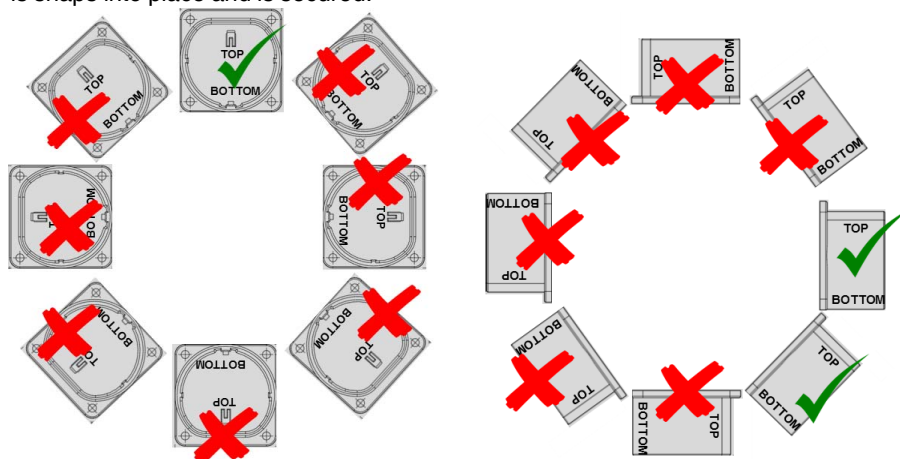

Figure 8-1 Mounting position and alignment
3. Maintain the permitted mounting position (see Figure 8-1). The park position must only be installed straight and with a front incline of 0 to 45 degrees. Otherwise, the latching function of the integrated snap-on hook will not work, with which the Vehicle Connector is snaps into place and is secured.